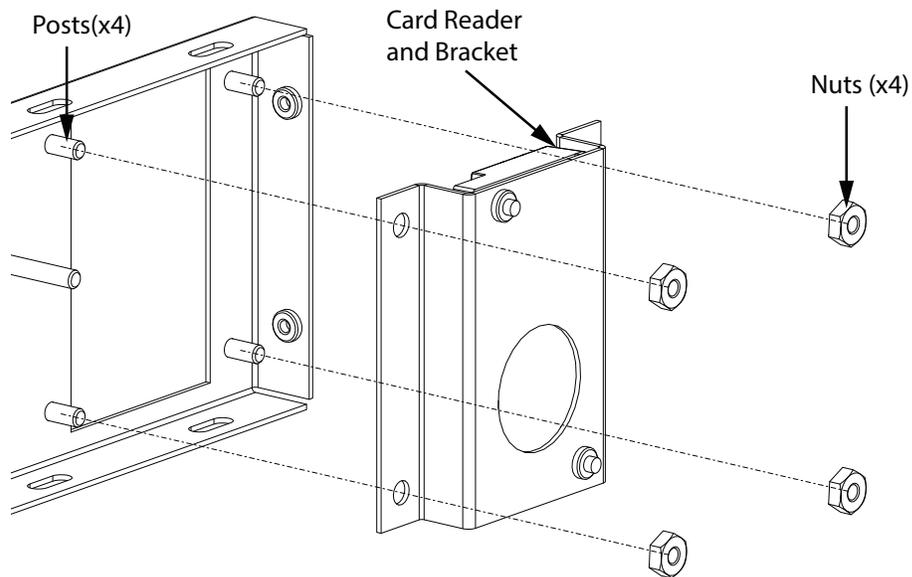
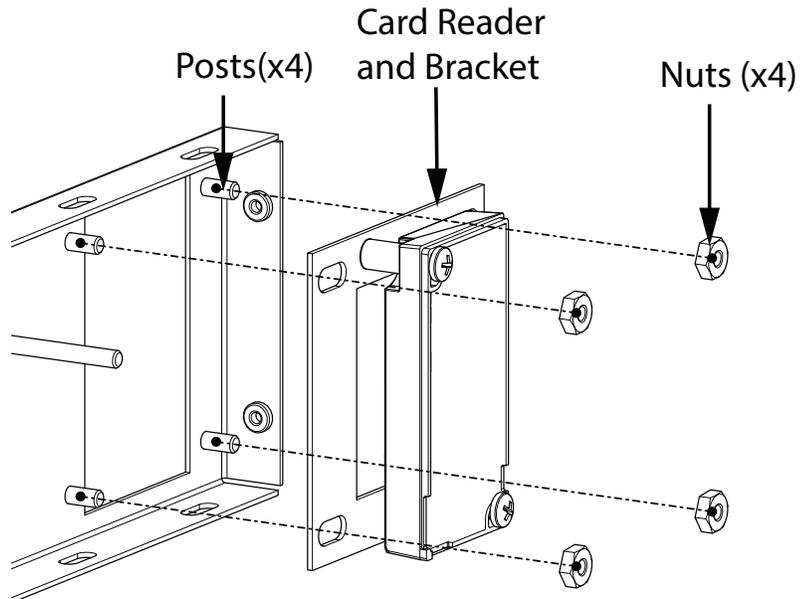

Figure 64. Old card reader bracket
Figure 65. New card reader bracket
2. Remove the card reader bracket from the Touch Screen door as shown in Figure 64 and Figure 65.